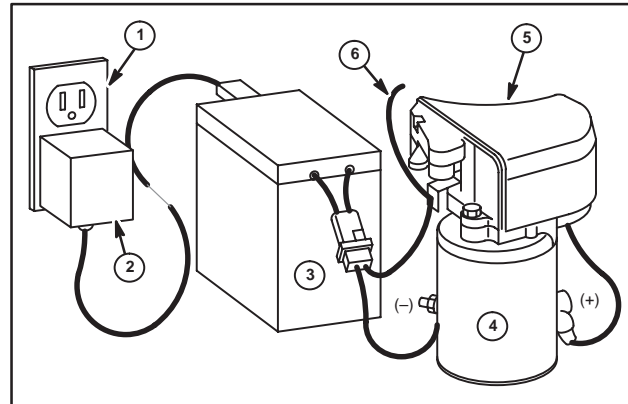

Fig. 8
Briggs & Stratton System 3[®] and System 4[®] consist of a starter motor (4), starter switch and/or starter solenoid (5), wiring harness, (wire #6 goes to engine alternator), 6 or 12 volt battery (rechargeable) (3), alternator, and separate trickle type battery charger (2). A typical System 3[®] or System 4[®] engine is shown in Fig. 8.